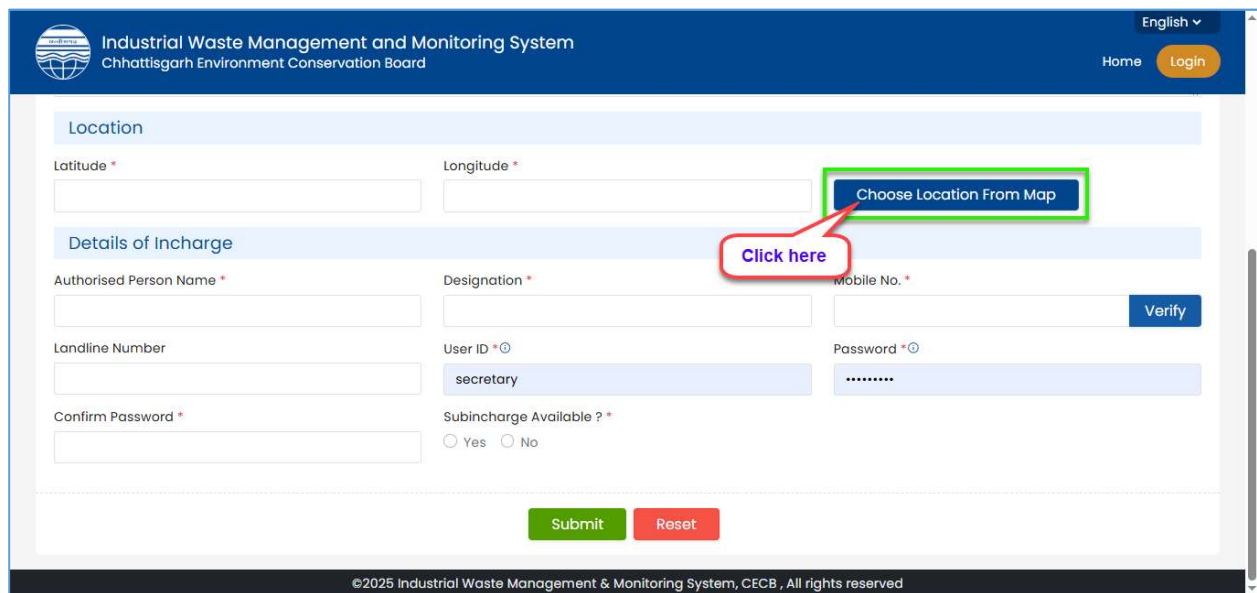

Figure 2-4 Registration Form Screen (2)
- Or, click on **Choose Location from Map** (refer **Fig 2-4**) to identify and fetch the longitude and latitude details of the location directly from the map.